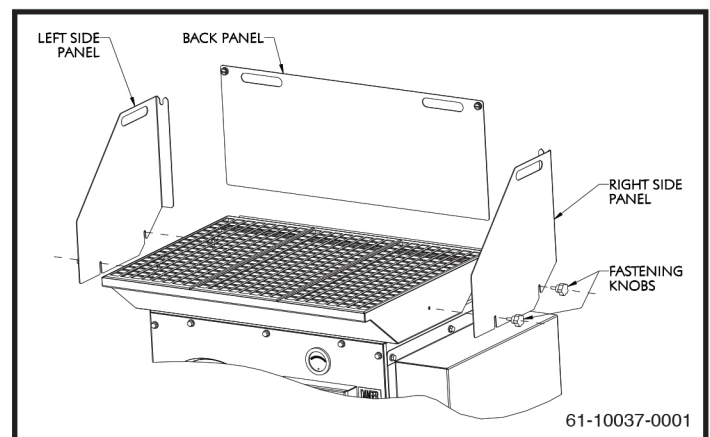

**Figure 3. Downdraft Table Installation Detail**
1. Begin by securing the two side panels as shown in Figure 3. Thread all four fastening knobs into the cabinet leaving enough space for the side panel to fit over top of threaded knob stud.